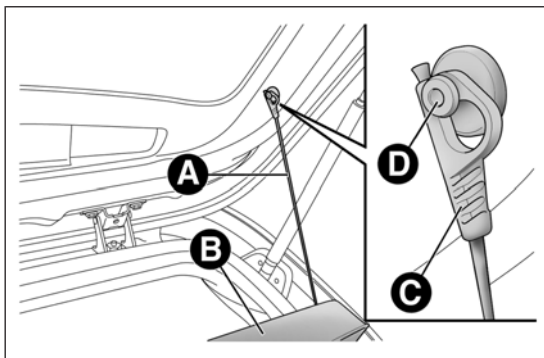

fig. 62
- ❑ free the ends of the two parcel shelf B mounting links A fig. 62 by removing the eyelets C from the mounting pins;